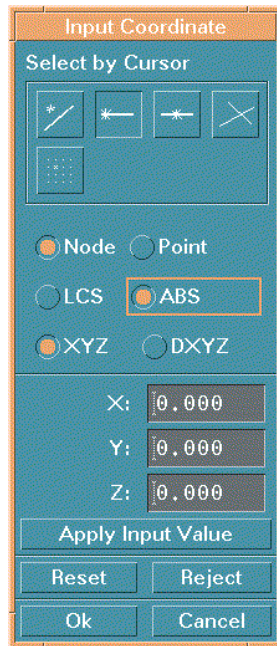

Figure 6.1.2 Input Coordinate
This function allows the user to draw a line. In eta/DYNAFORM, a line is formed by a sequence of points and is displayed by the set of straight-line segments between adjacent points in the sequence. To create a line the user needs to define the location of the points. The INPUT COORDINATE dialog window, Figure 6.1.2 provides various ways to define the location of the points.
- Select three points in Figure 6.1.2 and refer to Section 6.1.1. When the third point is selected, the arc and its center will be generated.
- If POINT TO POINT MOVE is selected, the INPUT COORDINATE window, see Figure 6.1.2, will be displayed for selecting two points. The translation will be based on the differences of three coordinates of selected points.